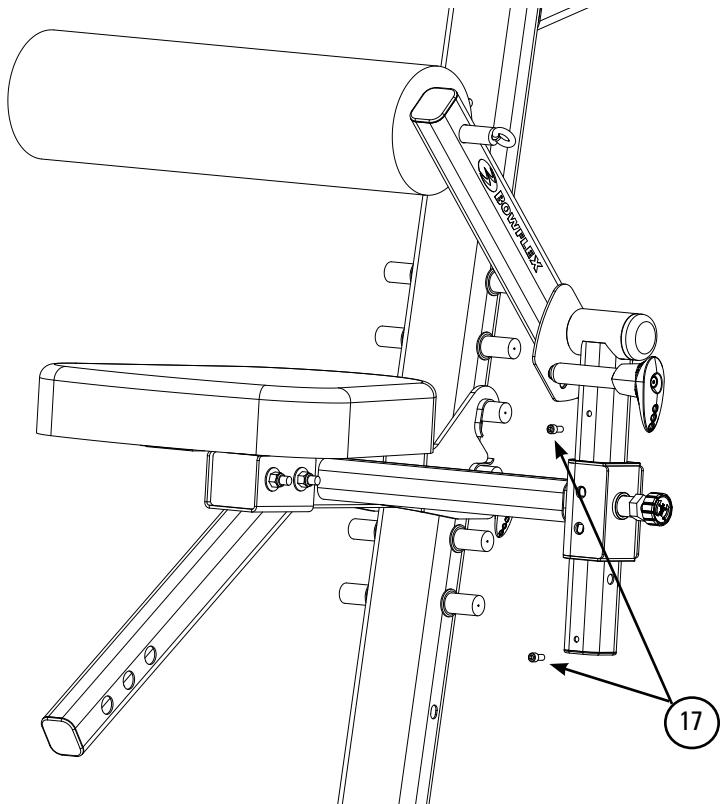

Figure 5b - view from front of seat
5-2 Screw one 1/4 X 1/2 Bolt (17) into the lowest hole on the Upper Assembly support. See **Figure 5b**. Screw the other 1/4 X 1/2 Bolt into the highest hole on the support.